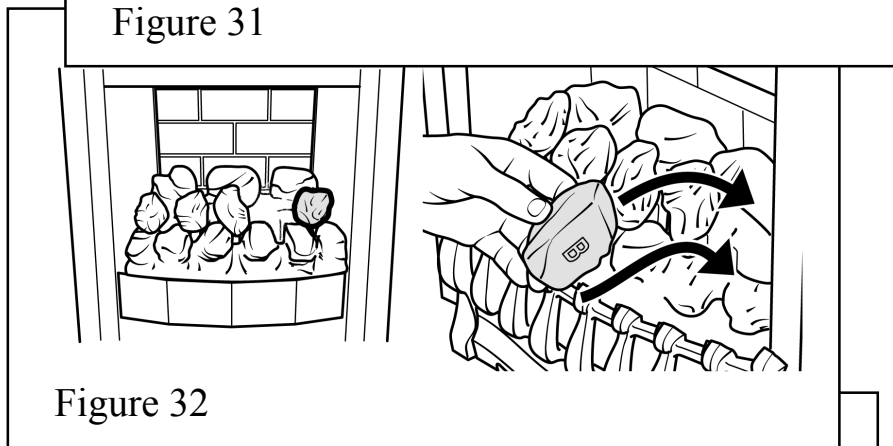

Figure 32
8. Place the remaining type "B" coal at the right side of the firebox between the front and rear base coals. The letter "B" should be upright. The coal should touch the right side of the firebox. See figure 32.